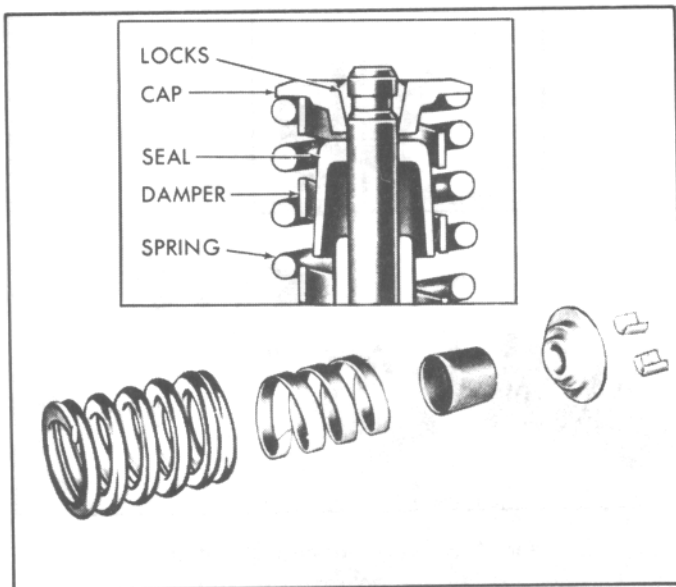

Fig. 109. Exhaust Valve Spring Installation (454 CID V8)
- (b) Set the valve spring (with damper), and valve cap in place (Fig. 109).